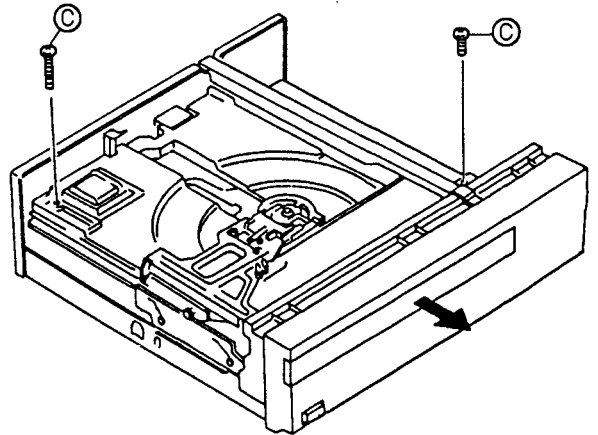

Fig. 7-2
7.2 REMOVING THE TRAY(Fig. 7-2, 3)
- ① Remove two stopper screws (C) shown in Fig. 7-2. When the power can be turned ON, press the OPEN (▲) button then pull the tray out from the player.